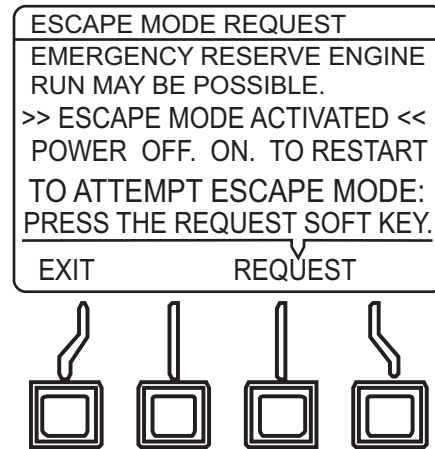

Figure 98. Escape Mode Activated Screen
7. Once the **[REQUEST]** button has been pressed, the display will indicate that escape mode has been activated (Figure 98).